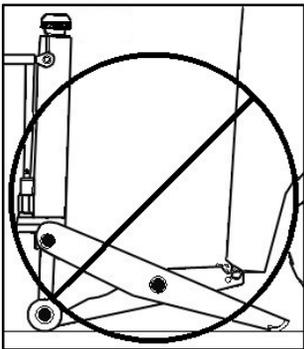

Fig. 9: Do not lift on rounded surface
- ⚠ Never lift with the jack positioned under a sloped or rounded surface, such as the bottom surface of a forklift's counterweights (Fig. 9).